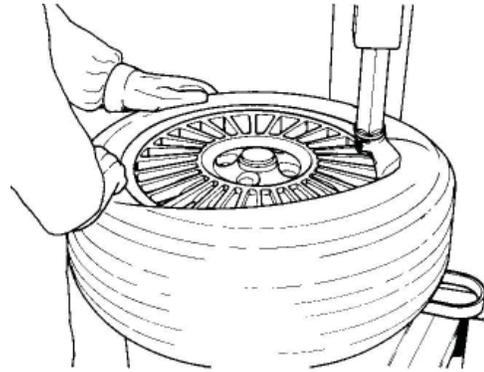

Fig. 4.1-6
G. Rotate the turntable clockwise (7 RPM Pedal Position) and, at the same time, push down on the tire sidewall to move the bead into the drop center of the rim (Fig. 4.1-6).